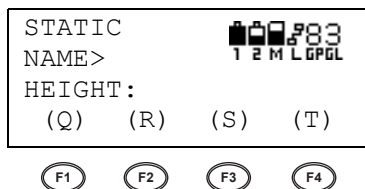

Figure 3-12. Press Function Key for Desired Letter
4. Press the **function key** for the desired letter (Figure 3-12). For example, press **F4** for T.